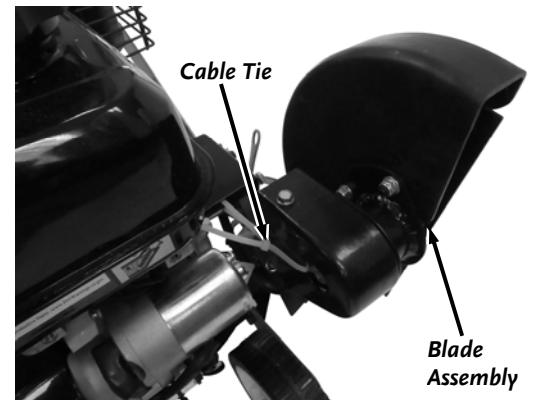

Figure 4
1. Ensure that the Cable Tie that secures the Blade Assembly is cut and removed from the machine (Figure 4).